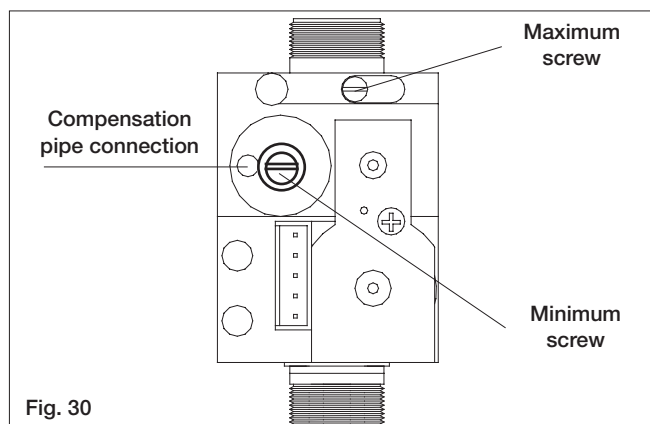

Fig. 30
- Using a suitable screwdriver, very slowly turn the maximum adjustment screw (see fig. 30) – clockwise to decrease, counter clockwise to increase – until the correct value is displayed on the CO2 analyser (allow time for the analyser to stabilise).
- Using a 2,5mm Allen key, very slowly turn the minimum adjustment screw (see fig. 30) – clockwise to increase, counter clockwise to decrease – until the correct value is displayed on the CO2 analyser (allow time for the analyser to stabilise).